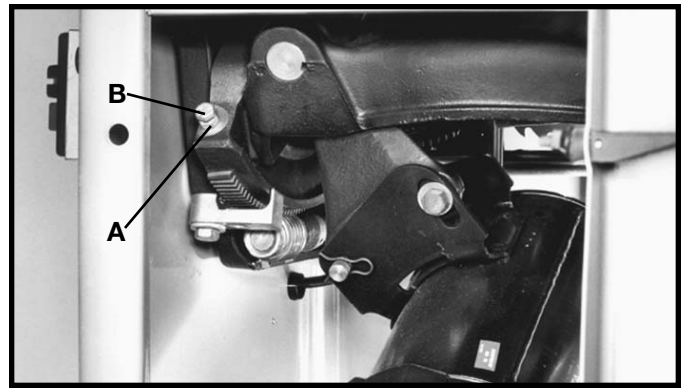

Fig. 42
2. Using a square, check to see if the blade is 90 degrees to the table. If an adjustment is necessary, turn the blade tilting handwheel counterclockwise. Loosen locknut (A) Fig. 42, and tighten or loosen adjusting screw (B) until head of screw (B) contacts casting on front trunnion when the blade is at 90 degrees to the table. Then tighten locknut (A).